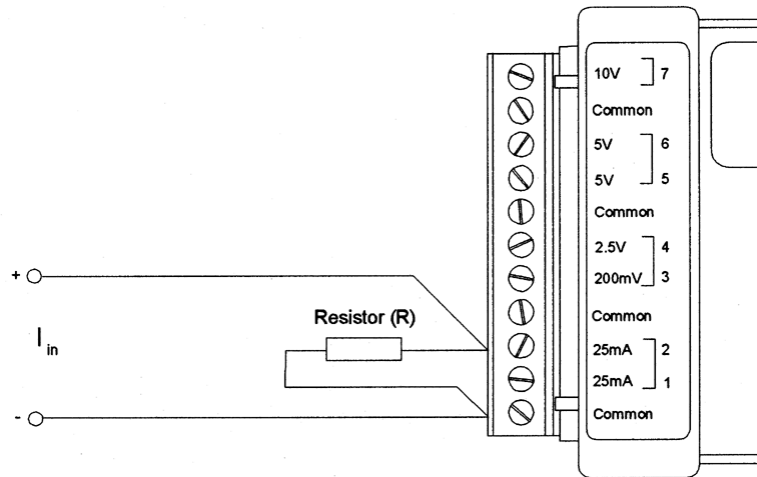

Figure 7-5: Modified 25mA Channel
The 25 milliamp channel can be modified to span higher ranges (greater than 25mA DC) by adding a single resistor across the input terminals as shown in Figure 7-5. The value of the resistor (R) can be calculated by the following the formula below, based on the desired current input range (lin) in mA\*\*: